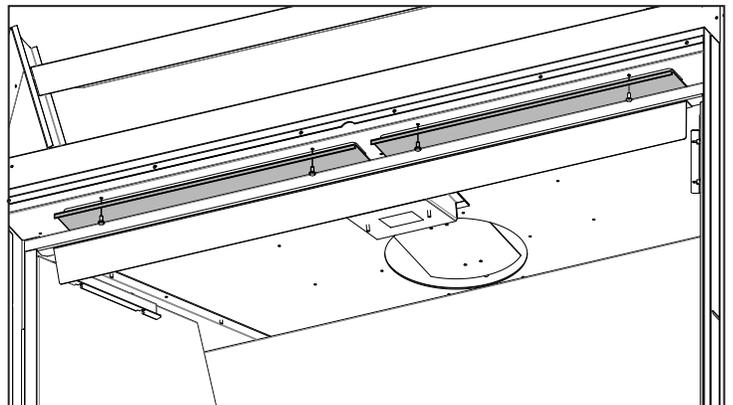

Figure 39: CSS Cover Plates
**Step 4.** Remove the two cover plates on the ceiling of the unit. These are secured by four (4) T-20 screws. See Figure 39.